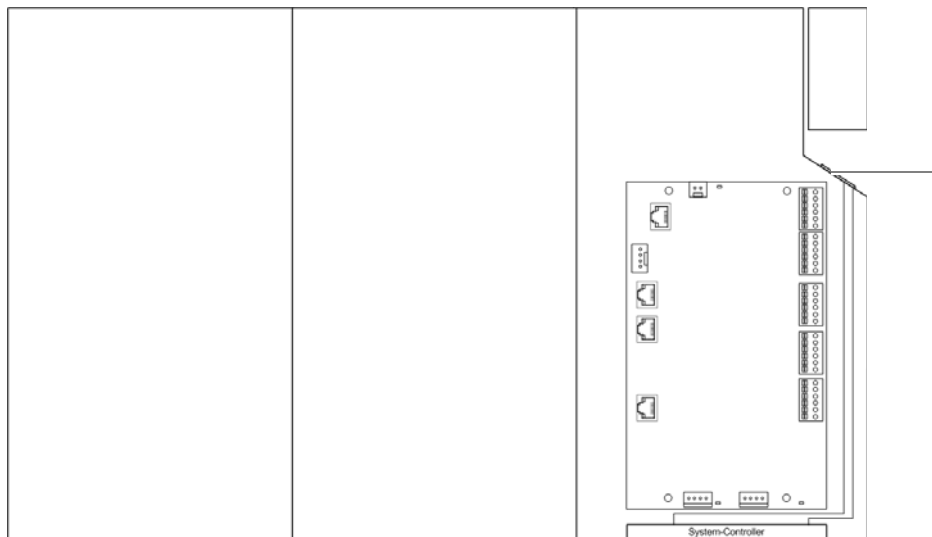

Figure 11.27 Mounting frame grommet (top view)
1. Route the cables through the appropriate grommets, refer to Figure 11.27.